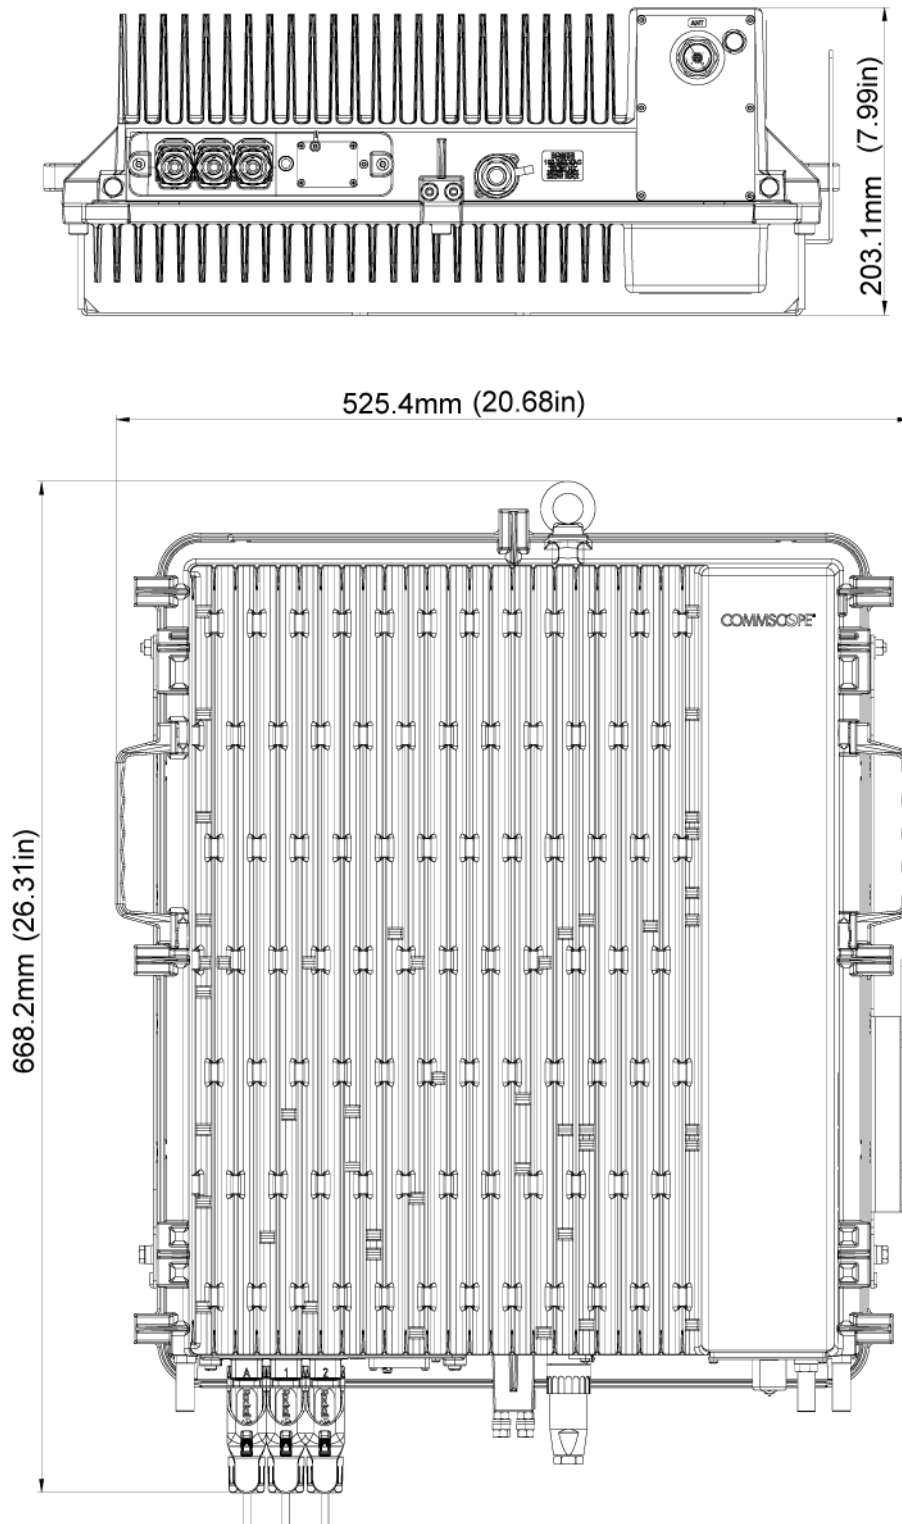
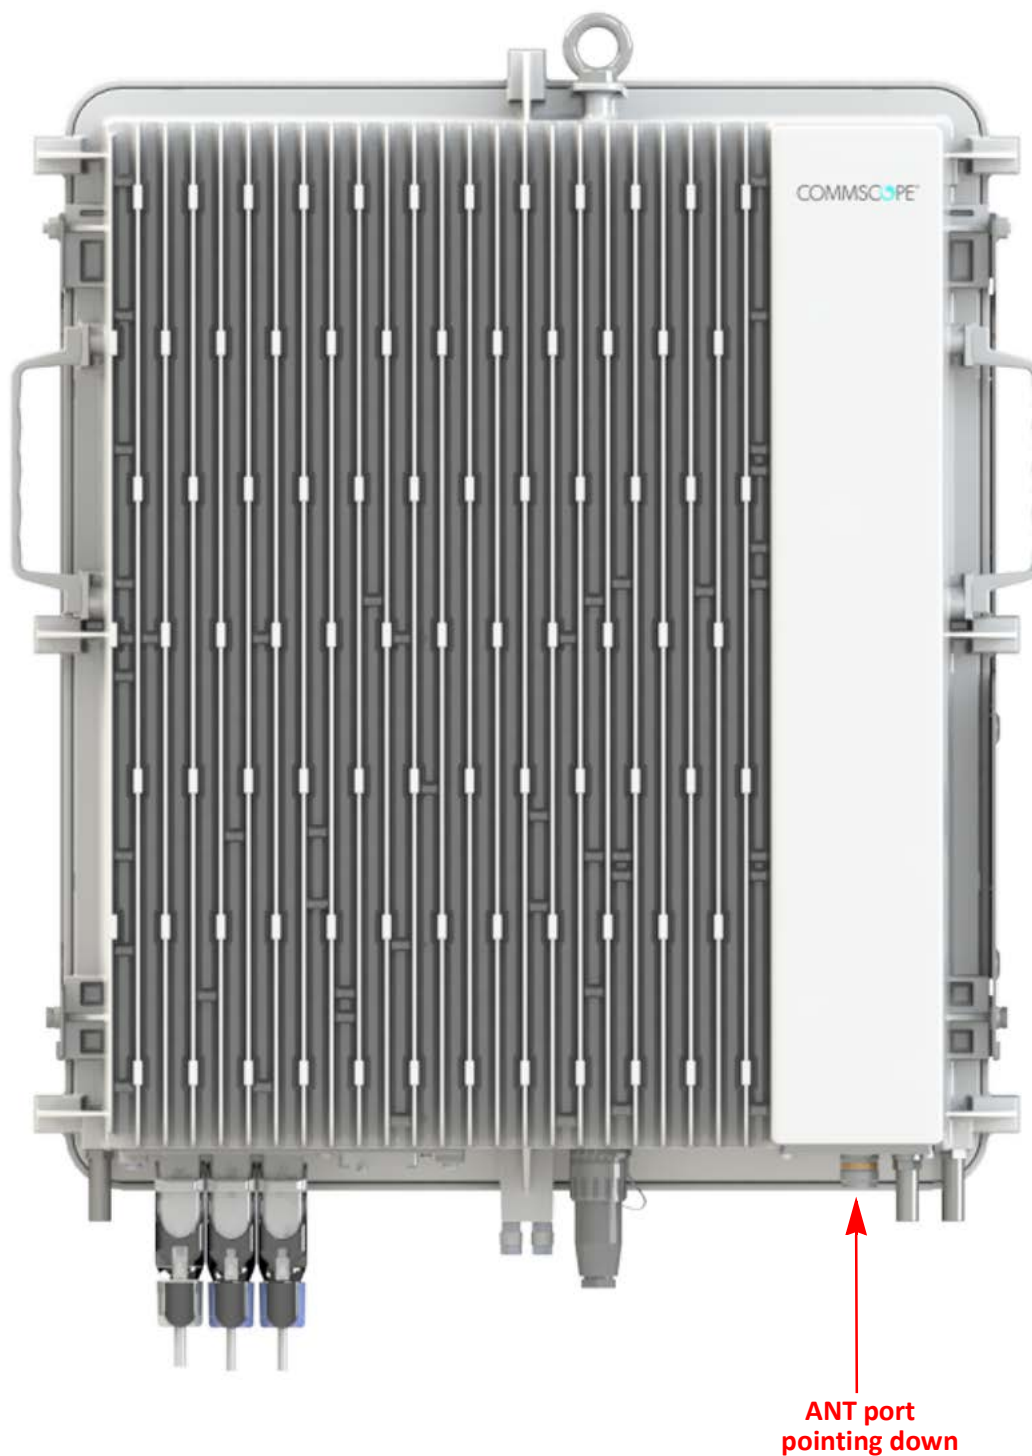

Figure 13. Mounting Dimensions for Single Mounting Bracket
Figure 15. Mounting Orientation for a CAP MX
- Use the dimensions shown in Figure 13 on page 24 for Single Mount and Figure 15 on page 31 for Dual Mount.
CAP MXs are passively cooled and must therefore always be mounted with its ANT port pointing down, as shown in Figure 15.